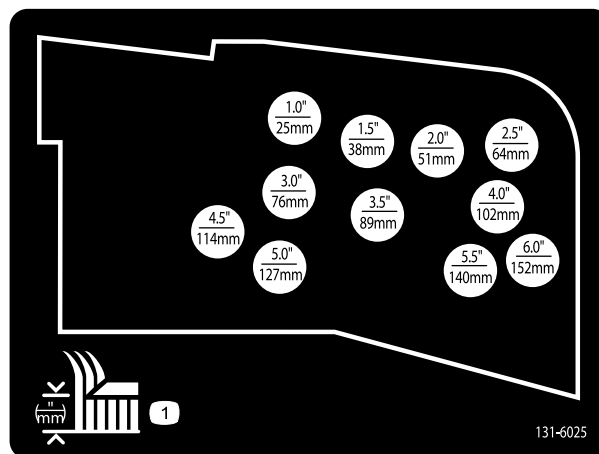

**Figure 18**
9. Remove the hairpin cotter and clevis pin securing the height-of-cut chains to the rear of the mower deck (Figure 18).